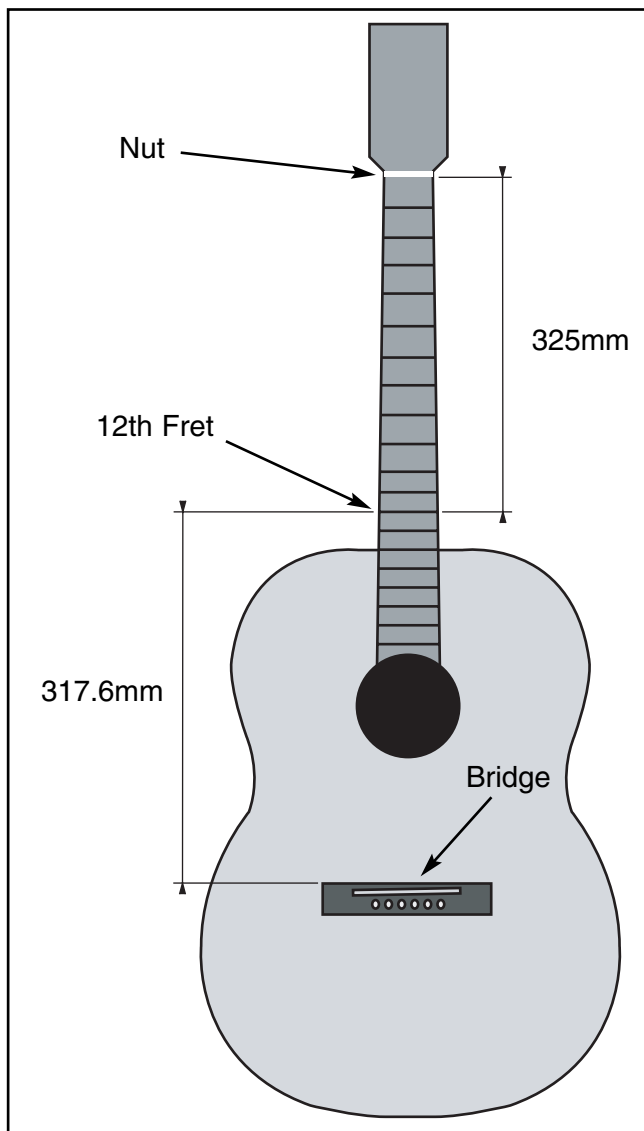

Figure 8. Bridge positioned correctly in relation to the 12th fret.
The correct distances between the inside edge of the nut, the center of the 12th fret and the center of the saddle slot are crucial to the performance of this guitar. **Figure 8** shows the correct distances.
1. Position the front edge of the bridge exactly 317.6mm away from the center of the 12th fret (**Figure 8**).
3. When placed against the end of the fingerboard, the inside edge of the nut should be exactly 325mm from the center of the 12th fret (**Figure 8**).